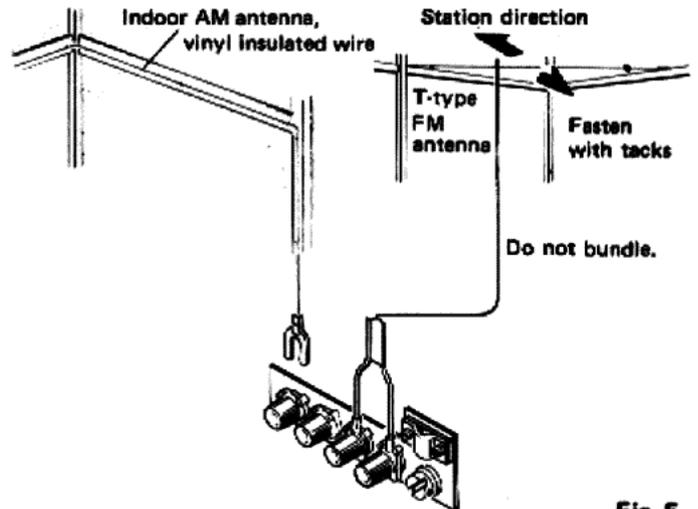

Fig. 5
- As shown in Fig. 5, connect the T-type antenna to the 300Ω antenna terminals. Spread the 2 arms of the antenna horizontally and while listening to an FM station, position them for best reception. The antenna can then be taped to a wall or ceiling.
If reception is difficult with the bar antenna, an indoor AM antenna can be erected with vinyl insulated wire as shown in Fig. 5.